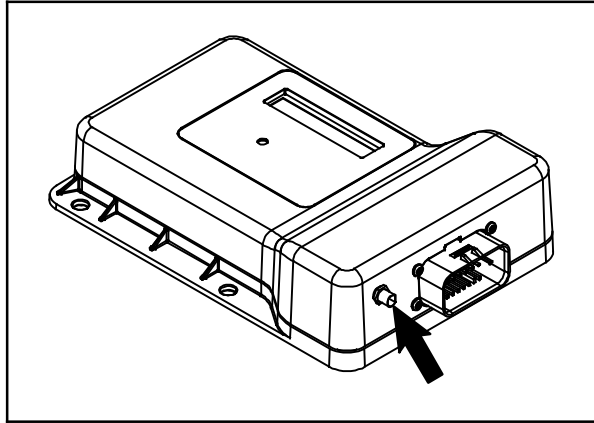

FIG. 22
24. Connect the antenna (8) wire to the telemetry control box (1). (Fig. 22)